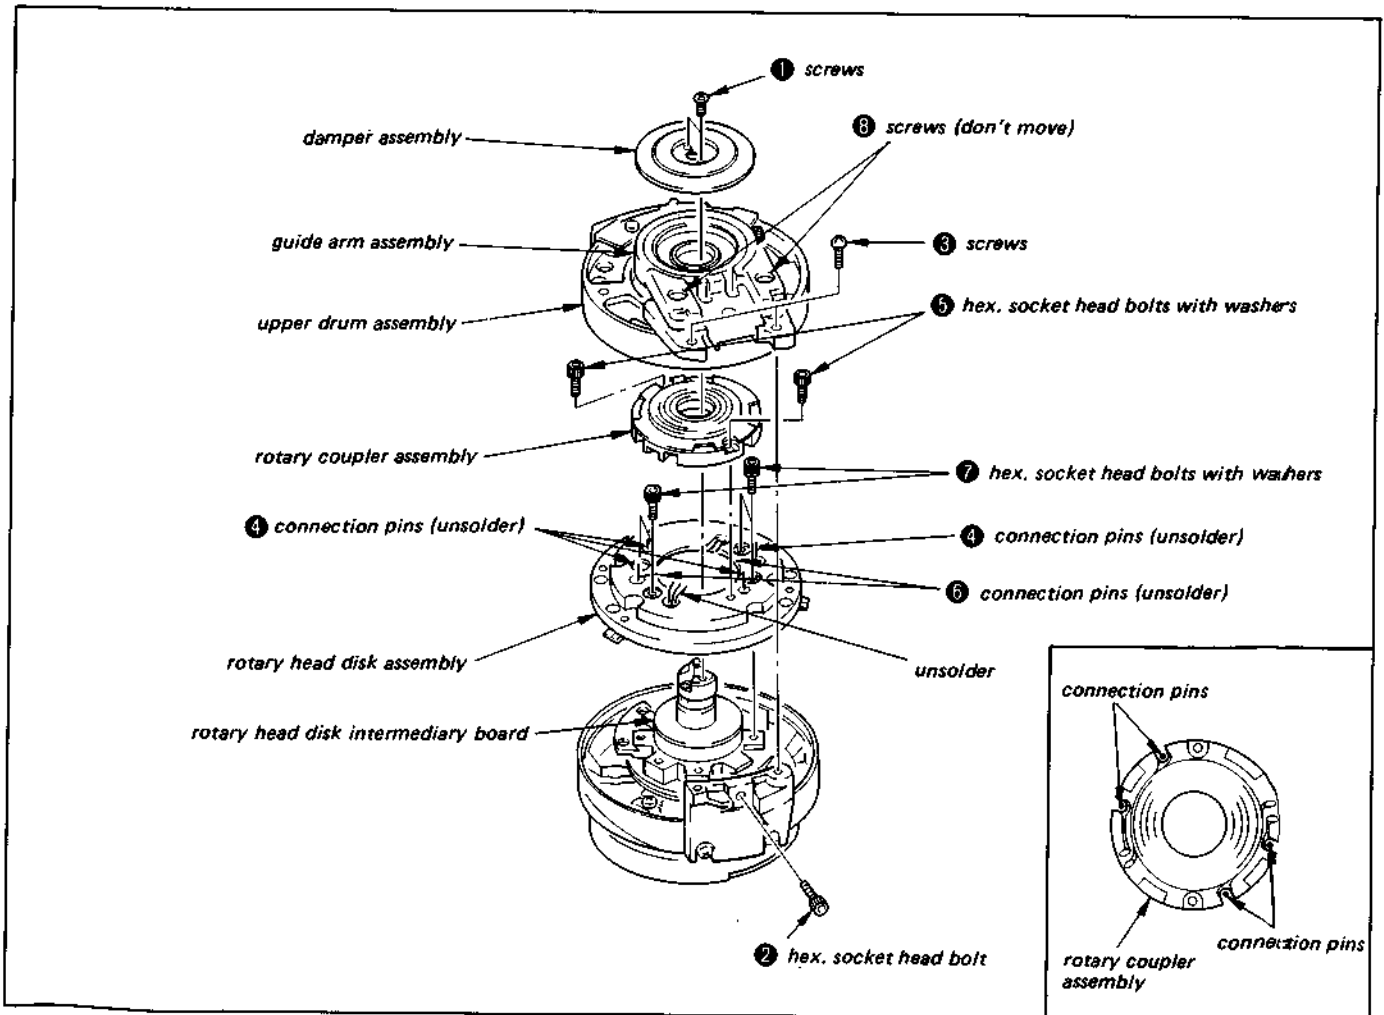
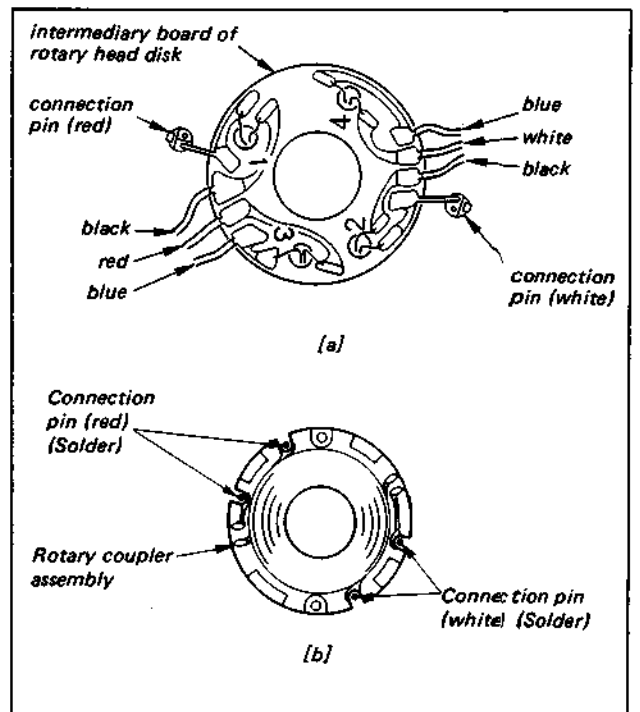

Fig. 3-3 How to remove rotary head disk
Fig. 3-6 How to refit rotary head disk (3)
#### 3-2-1. Removing Rotary Head Disk Assembly (See Fig. 3-3)
- 5) Tighten four hex. socket head bolts ⑦ (see Fig. 3-3), and solder the leads to the head intermediary board of rotary head disk (See Fig. 3-6-a).
- 6) Refit the rotary coupler assembly, and tighten two hex. socket head bolts ⑤ (See Fig. 3-3).
- 7) Solder the four connection pins to the rotary coupler assembly (See Fig. 3-6-b).
- 8) Refit the upper drum assembly without moving the adjust plate, and lightly tighten screws ③. Tighten hex. socket head bolt ②, and then, tighten screws ④ firmly (See Fig. 3-3).
- 10) Refit the damper assembly, and tighten screw ① (See Fig. 3-3).